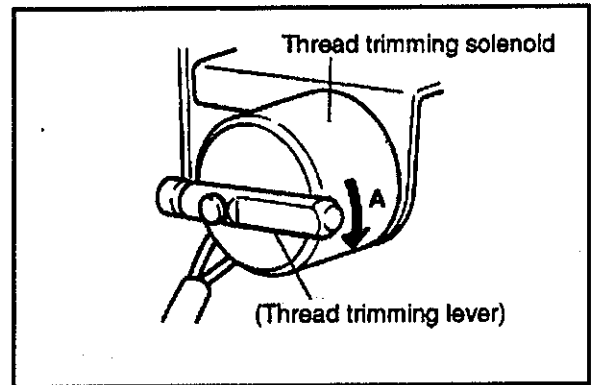

FIG.1
- (6) Turn the hand wheel counter clockwise until the thread catcher completes a trimming cycle, while pushing the thread trimming lever in direction A (Fig.1).
- (7) Perform trimming again, and check that the felt pen marking on the thread catcher is scraped evenly (even contact).